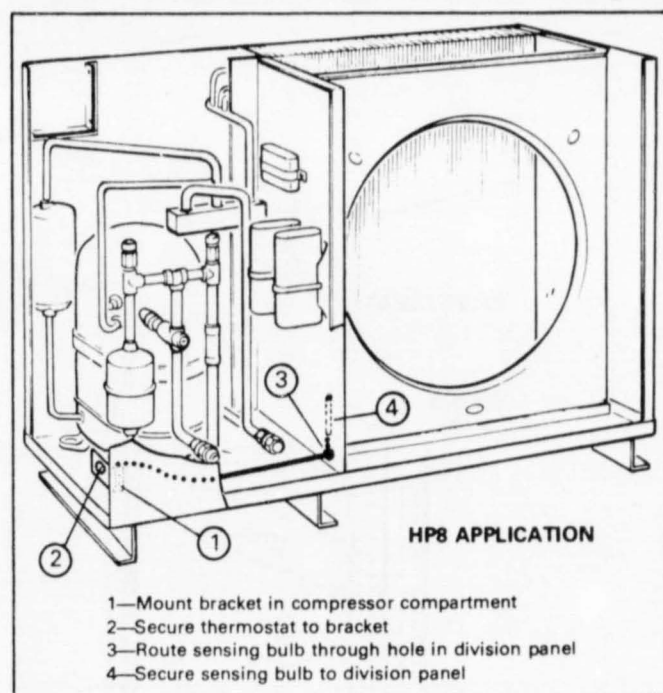

FIGURE 1
- 2—Sheet metal screws are provided for mounting bracket and clamps for securing sensing bulb. Figure 1 illustrates a typical HP8 application.